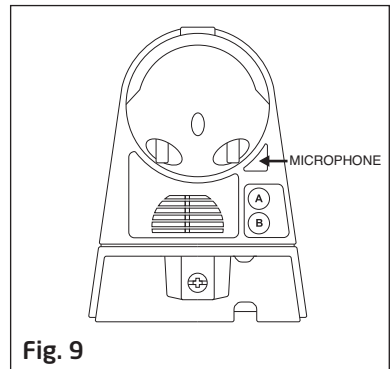

Fig. 9
- Set/Rec: record your own message (see fig. 9)
- Play/Erase: listen and erase the message (see fig. 9)